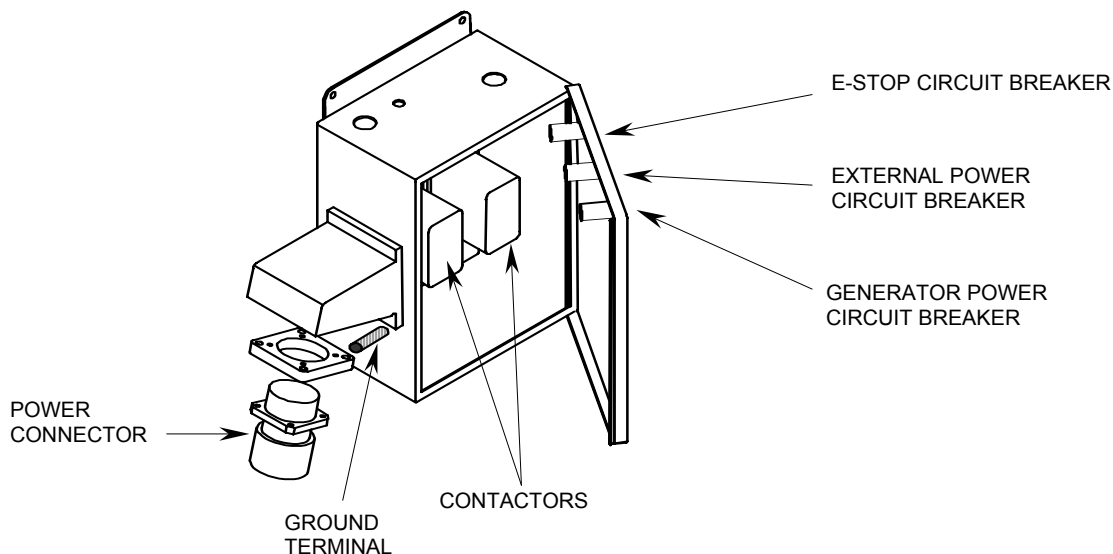

Figure 1. Power Entrance Panel.
**Power Connector:** Make sure all power is turned off at the Main Control Panel. Referring to Figure 1, disconnect the source power plug at the Power Entrance Panel and attach plug cover. Label and disconnect power leads from the external power contactor. Remove and retain connector mounting hardware and remove the connector. Install the replacement connector and retained hardware. Reconnect power leads at the contactor.
**Ground Terminal:** Make sure all power is turned off at the Main Control Panel. Referring to Figure 1, disconnect the source power plug at the Power Entrance Panel and attach plug cover. Remove the mounting hardware from inside the Power Entrance Panel. Disconnect the green
**Contactors:** Make sure all power is turned off at the Main Control Panel. Referring to Figure 1, disconnect the source power plug at the Power Entrance Panel and attach plug cover. Label and disconnect spade terminals. Remove and retain the contactor mounting hardware. Install the replacement contactor using retained hardware.